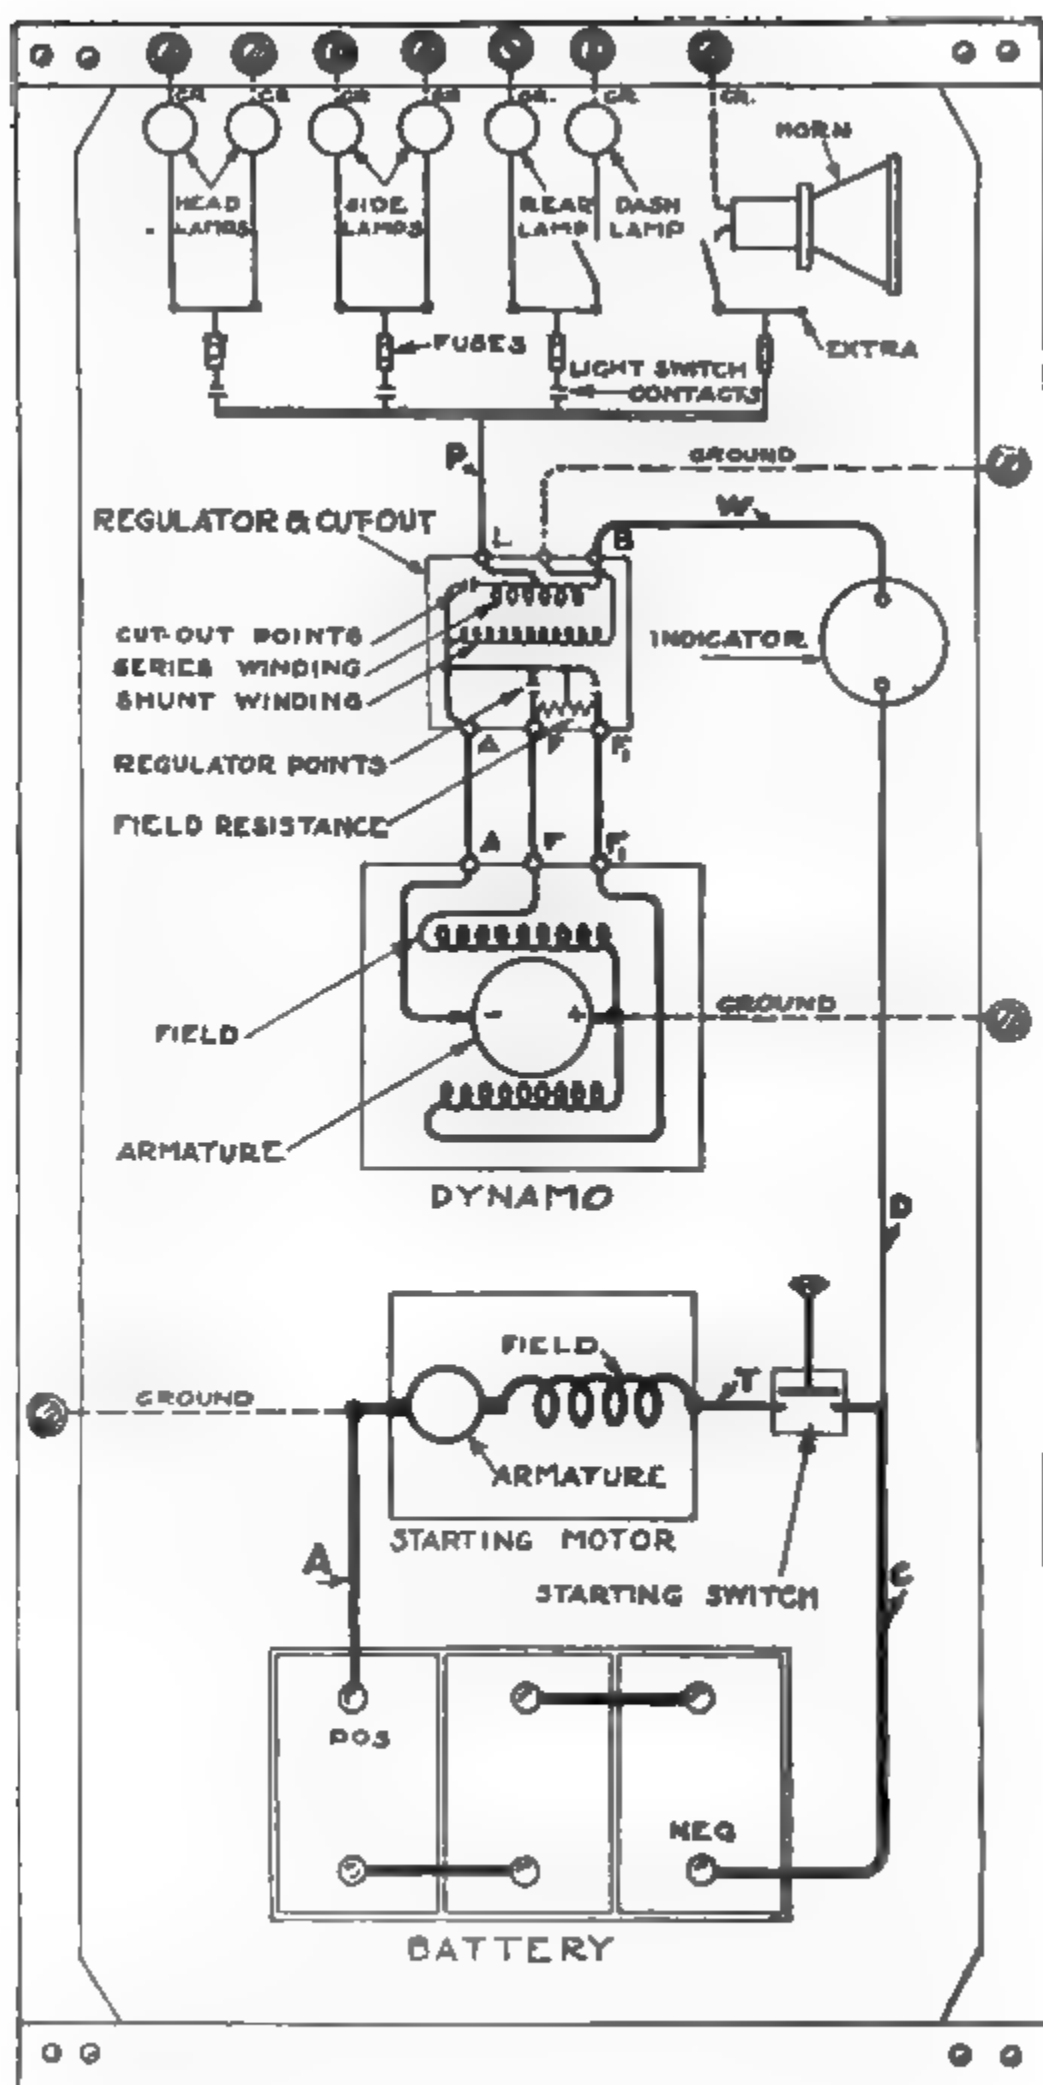

Fig. 285. Wiring Diagram for Gray & Davis Single-Wire System with Grounded Motor
*Grounded-Motor Arrangement.* Fig. 285 shows the Gray & Davis wiring diagram with grounded motor. Cable *A* from the battery positive terminal connects to the grounded terminal of the starting motor. Cable *T* connects an insulated terminal on the starting motor to one of the starting-switch terminals. Cable *C* from the starting switch terminal connects to the battery negative terminal, thus completing the circuit. On some makes of cars, cable *A* instead of
**Instructions.** When the indicator does not indicate *charge* though the engine is speeded up, but indicates *discharge* with the engine stopped, the dynamo or the regulator may not be working properly. To verify this, turn on all the lights, run the engine at a speed equivalent to 10 miles per hour, disconnect the wire from terminal *B*, Fig. 285, at the regulator cut-out; if the lights fail, either the dynamo or the regulator is at fault. Reconnect the wire to terminal *B* and remove the side plate from the dynamo to examine the brushes. Slide the brushes in and out, and see that they slide freely in the brush holders and make good contact with the commutator and that the wires from the brush holders and the fields to the dynamo terminals are firmly connected. If the dynamo is belt-driven, the belt may not be tight enough to rotate the dynamo at sufficient speed to charge the battery. The commutator, if coated or dirty, may be cleaned while rotating by holding a cloth slightly moistened with oil against it.